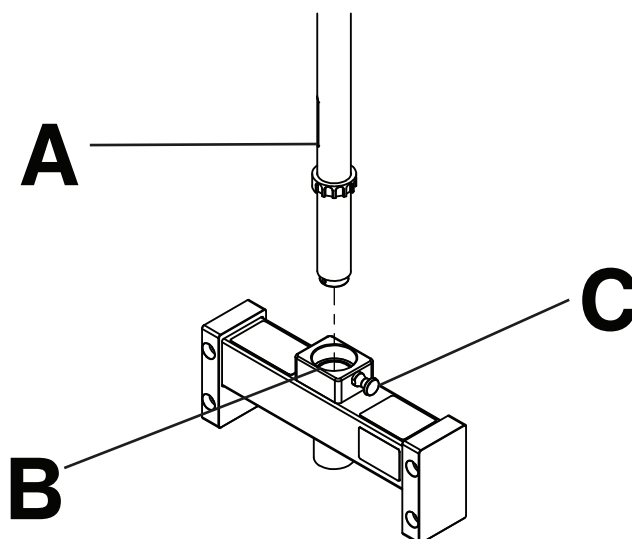

Figure 26 – Attaching or removing the patient helper
1. Insert the lifting pole (A) into the mounting bracket (B) (Figure 26).
2. Rotate the lifting pole in the mounting bracket until the patient helper knob (C) locks in position (Figure 26).